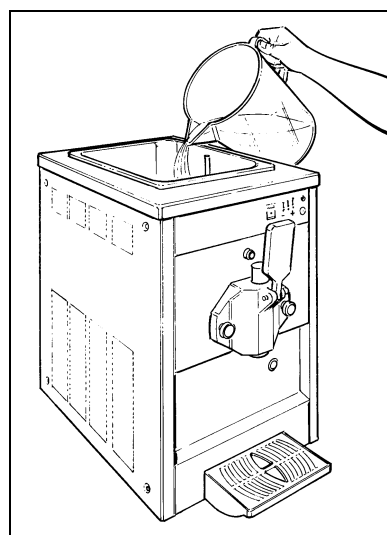

Fig. 6
- Pour the mix obtained into the upper tank (fig.6) and wait until it has drained into the freezing cylinder considering that the cylinder capacity is almost 8 litres (2.1 gallons) while that of the upper tank is about 10 litres (2.6 gallons) for the MP and MP2, about 20 (5.3 gallons) for the MP1HC.